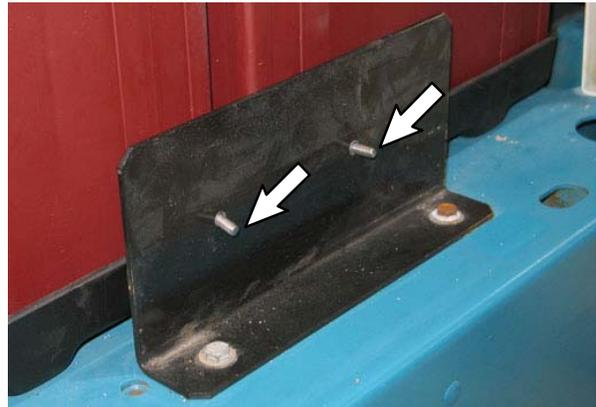
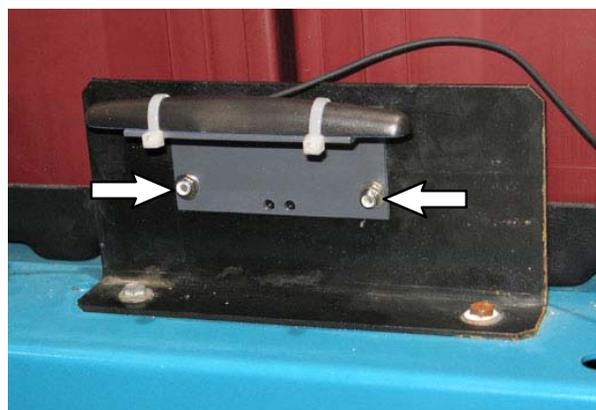

FIG. 10
FIG. 11
20. Use two M5 hex screws (19), four washers (4), and two M5 hex nuts (5) to install the antenna (6) / antenna bracket (18) onto the battery brace. (Fig. 10 / Fig. 11)
**NOTE:** To avoid the battery being damaged if the battery were to slide against the battery brace, install the hex screws (19) as shown with the threaded end pointed away from the battery.